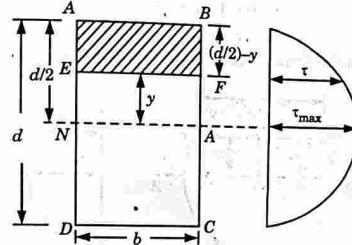

Fig. 3.28.1.
1. Let, a rectangular section of width b and depth d is shown in Fig. 3.28.1 and this section is subjected to shear force F . Consider a section EF at distance y from neutral axis.